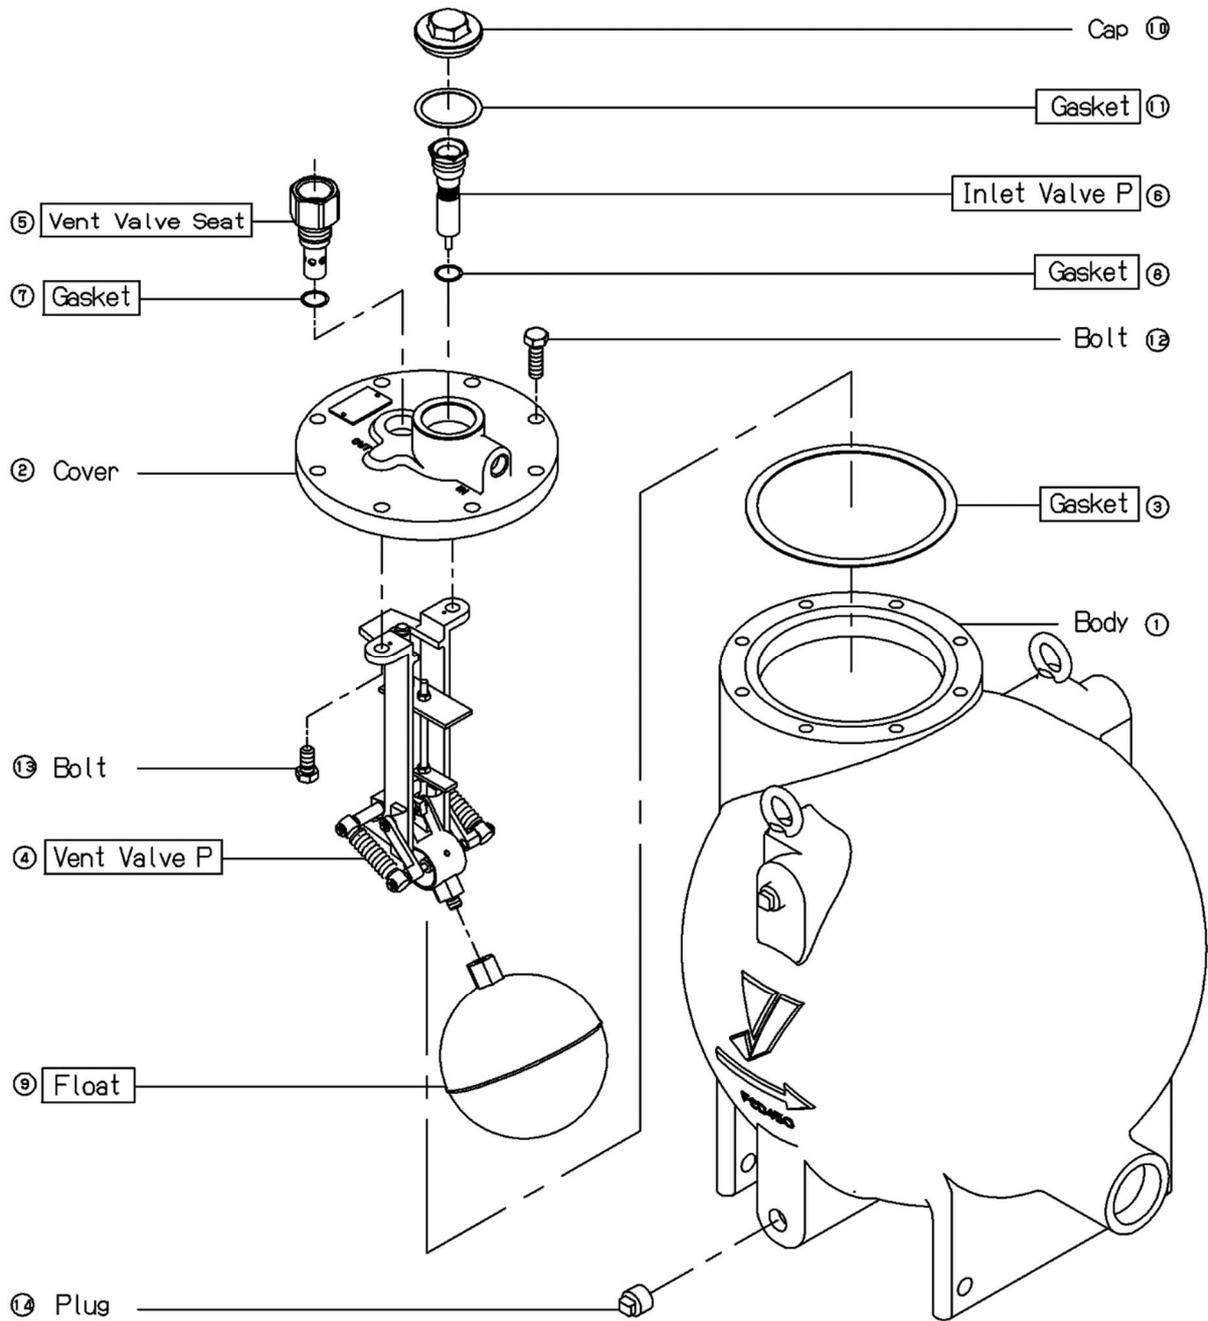

Fig. 8. Exploded view
The following parts should be replaced at recommended intervals to maintain functions and performance of the product. Replace the parts at the recommended intervals. (See Fig. 8 for the numbers inside the brackets [ ].)
**8.3 Troubleshooting** (See 6.1 Piping example for marks and numbers of stop valves, and see Fig. 8 for the numbers inside the brackets [ ].)
### 8.4.1 Warning and caution for disassembly/assembly (See Fig. 8 for the numbers inside the brackets [ ]).
### 8.4.2 Disassembly method (See Fig. 8)
### 8.4.3 Assembly method (See Fig. 8)